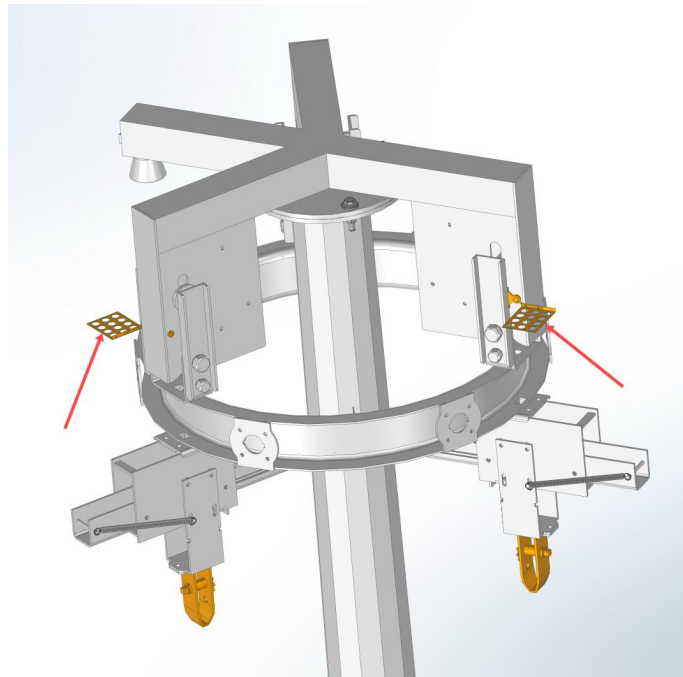

Figure 16
1. As the carriage approaches the top of the pole, closely observe the indicator flags shown in Figure 16. The yellow or red flags hang vertically in their free position and move to a horizontal position when the carriage reaches the hook engagement area.